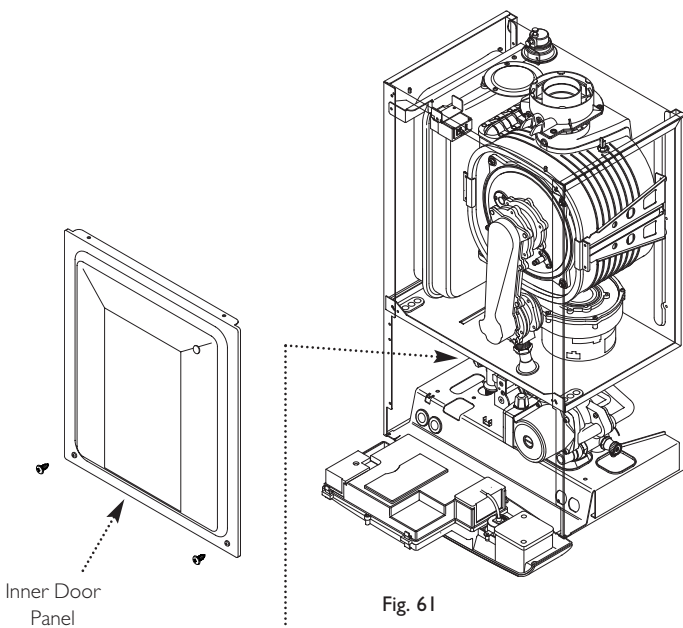

Fig. 61
6. Remove the screws securing the inner door panel. Lift the panel slightly to disengage it from the studs on top of the case (Fig. 61).